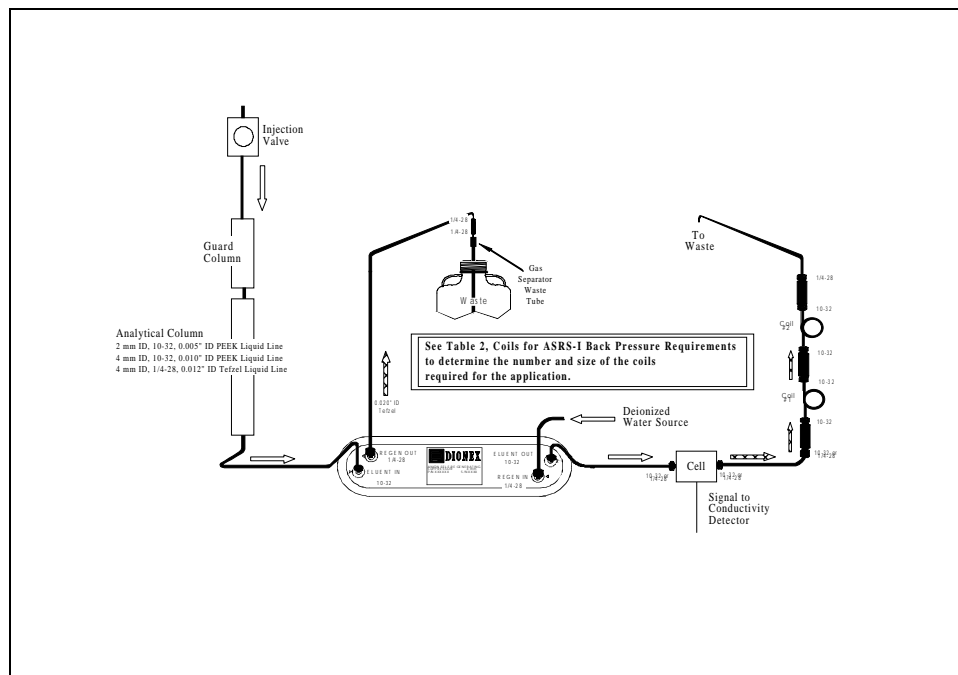

Figure B-4. AutoSuppression Mode, External Regenerant
- AutoSuppression with External Regenerant mode (SRS required), shown in Figure B-4. Also plumb the system in this way for the AutoSuppression Chemical Suppressor and MMS Pressurized Regen System configurations.